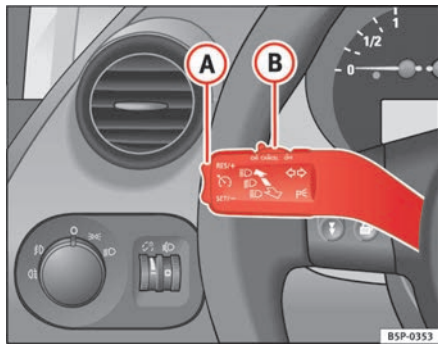

Fig. 148 Turn signal and main beam headlight lever switch and rocker switch for the cruise control
- Press the lower part **SET/-** of the rocker switch ⇒ fig. 148 **A** once briefly when you have reached the speed you wish to set.